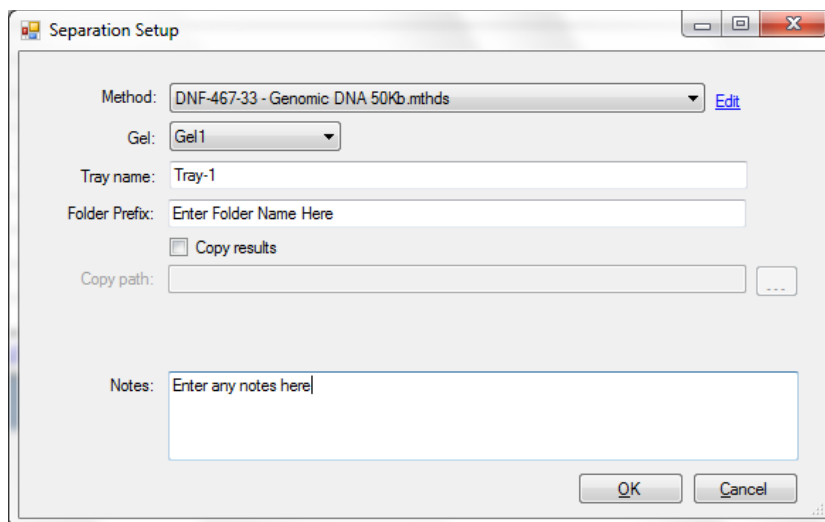

Figure 4. **Separation Setup** form to select experimental Method and enter tray/folder information
- After sample information for the row or plate has been entered, under the **Run Selected Group** field press **Add to queue**. The **Separation Setup** form will be displayed enabling the user to select the experimental method and enter additional information (Figure 4).
11. On 96-capillary systems, or in 12-capillary or 48-capillary systems if the entire 96-well sample tray is to be run using the same experimental method, under the **Run Entire Tray** field press **Add to queue**. A form similar to Figure 4 will be displayed for entering information and adding the run to the instrument queue for the entire 96-well sample tray.
2. Administrator level operators can **Edit** certain steps of the experimental method. To open the method editor screen, press the **Edit** link from the **Separation Setup** screen (Figure 4). The method editor screen is displayed, showing the steps of the method (Figure 6).